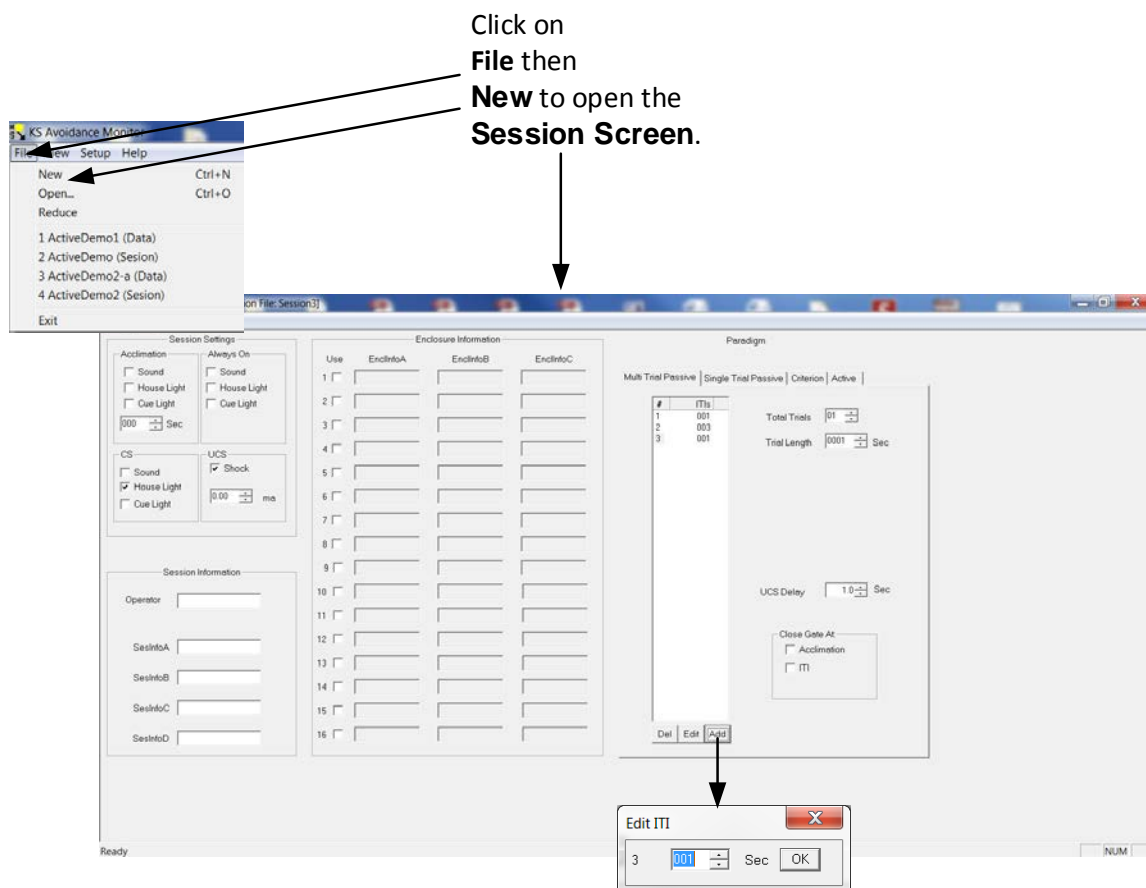

Figure 2-15. *Session Screen*
To create a new test session click on **File** then **New**. A screen similar to Figure 2-15 will appear.
If you have more than one trial, you must enter at least one ITI. As shown in Figure 2-15, the **Add** button has been pressed to activate the input screen where you can set the value of the next ITI.
4. **Enclosure Info Filter:** This parameter allows you to select certain subjects by field. This is based on the information placed in the **Enclosure Information** fields located in the Session Screen (refer to Figure 2-15).